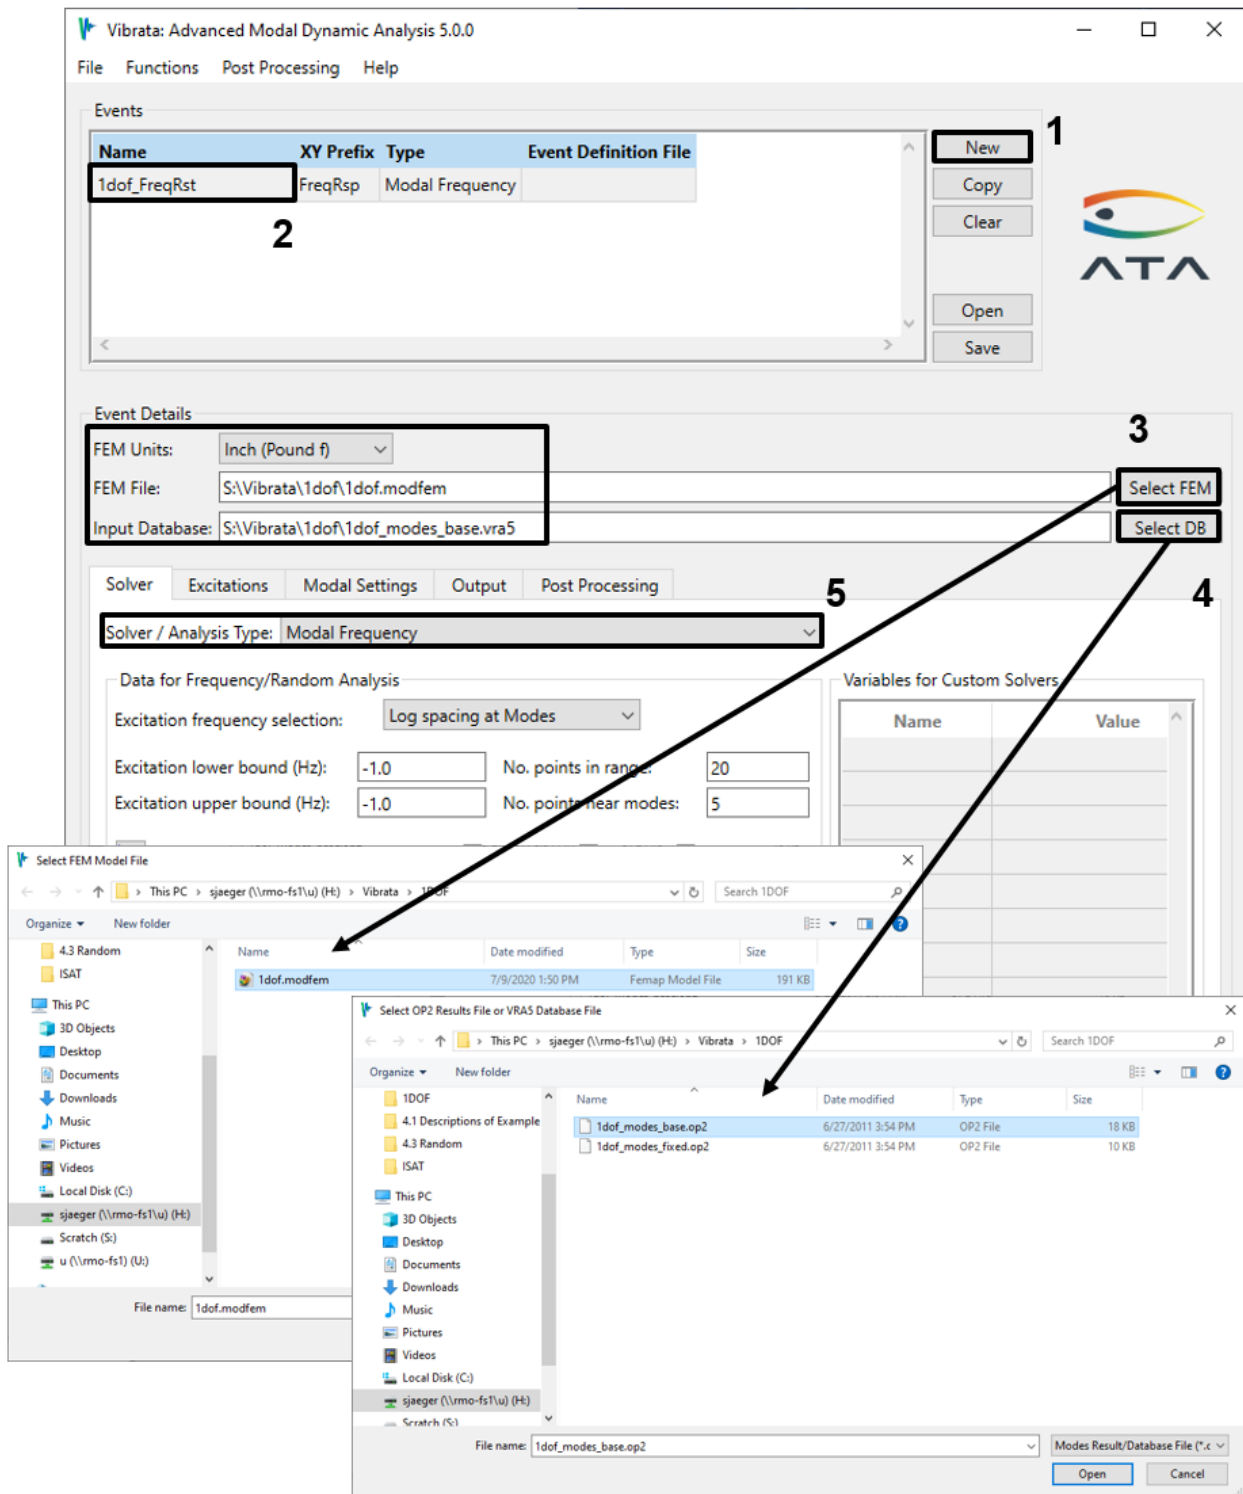

Figure 4-10. Create a new frequency response event and select the FEM on which to base it.
2. Start Vibrata and create a new modal frequency event using that modfem file (Figure 4-10) and select the OP2 named "1dof_modes_base.op2" for the results. You can assign an XY Prefix here, or you will be asked for one when you solve.